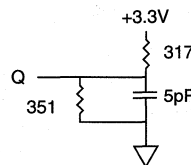

Fig. 2 OUTPUT LOAD EQUIVALENT
- Output loading is specified with C_L = 5pF as in Fig. 2. Transition is measured ±200mV from steady state voltage.